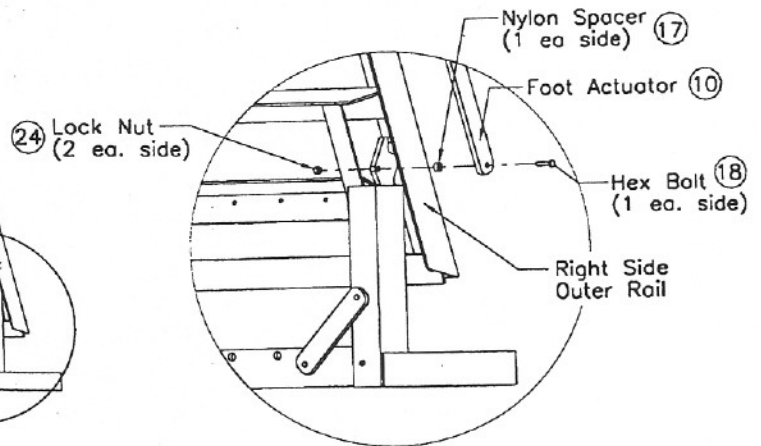

FIG. 2
4. Bolt the other ends of the foot actuators to the floor base. (See fig. 2)